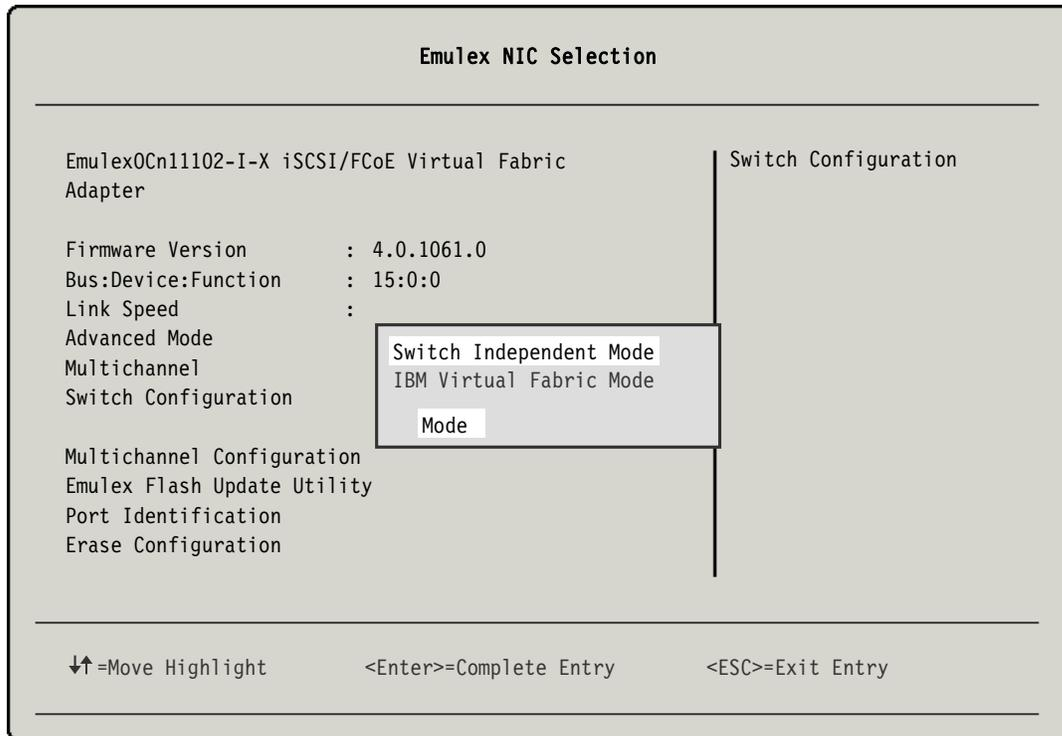

Figure 10-5 Emulex vNIC Switch Independent Mode / IBM Virtual Fabric Mode selection
6. In the Emulex NIC Selection panel (Figure 10-5), verify the following settings: